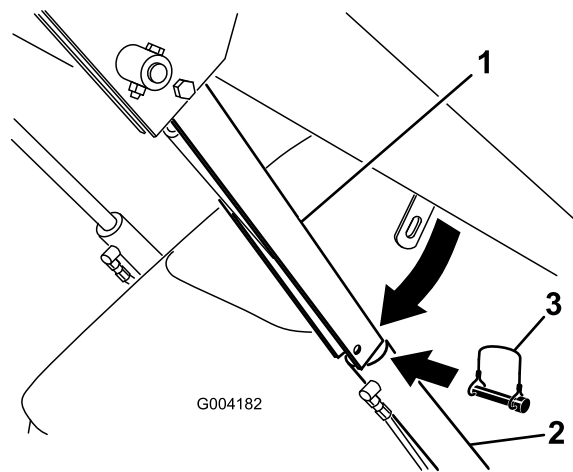

Figure 18
4. Remove the lynch pin securing the cylinder lock to the loader arm (Figure 18).
5. Lower the cylinder lock over the cylinder rod and secure it with the lynch pin (Figure 18).